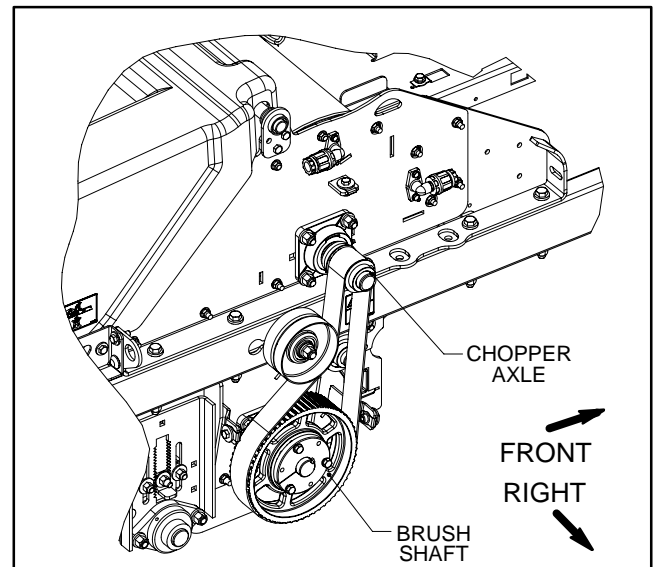
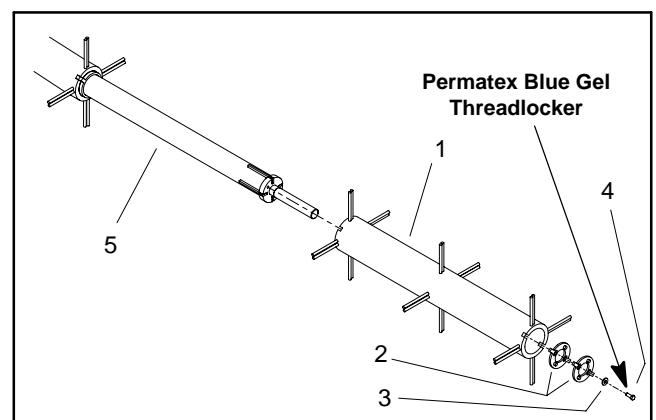

Figure 27
Figure 29
2. Remove belt covers from both sides of brush shaft (Figs. 27 and 28) (see Drive Belt Covers in this section).
5. On both sides of machine, remove two (2) flange nuts and carriage screws that secure side shield (item 8) to frame. Remove shield, angle plate (item 7) and side skirt plate (item 9) from both sides of machine.
7. Note location of grease fitting on brush shaft bearings so bearings can be properly orientated during installation. On each side of machine, remove four (4) carriage screws (item 19), flat washers (item 20) and lock nuts (item 18) that secure brush shaft flange bearing to brush housing.
10. Loosen three (3) set screws that secure each flange bearing to brush shaft. Slide bearings from brush shaft.
11. Disassemble brush using Figure 29 as a guide.
1. Assemble brush using Figure 29 as a guide. Apply Permatex Blue Gel threadlocker to lower threads of cap screws (Fig. 29, item 4).
6. Align bearing flanges to brush housing and secure with four (4) carriage screws (item 19), flat washers (item 20) and lock nuts (item 18).